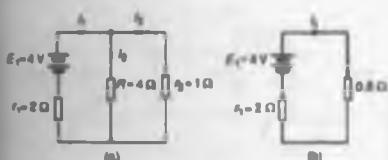
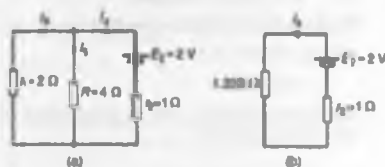
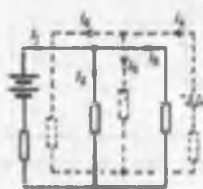

Figure 13.16
Figure 13.17
Figure 13.18
- 1 Redraw the original circuit with source E_2 removed, being replaced by r_2 only, as shown in Fig. 13.16(a)
- 2 Label the currents in each branch and their directions as shown in Fig. 13.16(a) and determine their values. (Note that the choice of current directions depends on the battery polarity, which, by convention is taken as flowing from the positive battery terminal as shown)
From the equivalent circuit of Fig. 13.16(b),
From Fig. 13.16(a),
- 3 Redraw the original circuit with source E_1 removed, being replaced by r_1 only, as shown in Fig. 13.17(a)
- 4 Label the currents in each branch and their directions as shown in Fig. 13.17(a) and determine their values.
From the equivalent circuit of Fig. 13.17(b)
From Fig. 13.17(a),
- 5 Superimpose Fig. 13.17(a) on to Fig. 13.16(a) as shown in Fig. 13.18